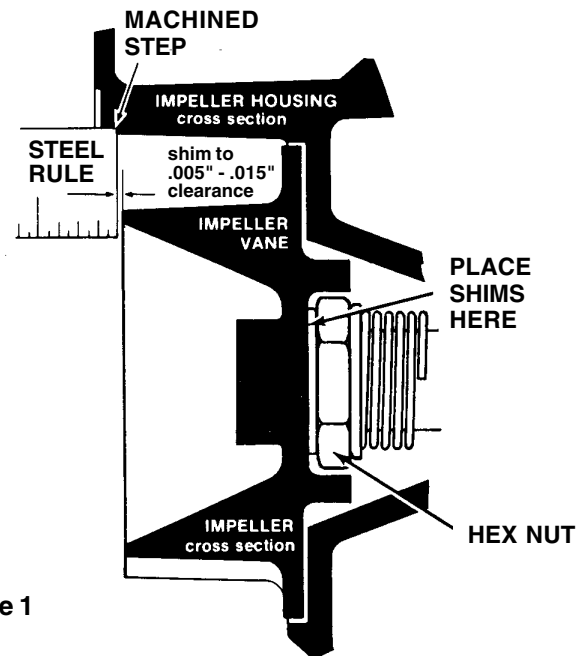

Figure 1
11. Turn the impeller until one vane aligns with the step in the impeller housing, see Figure 1.